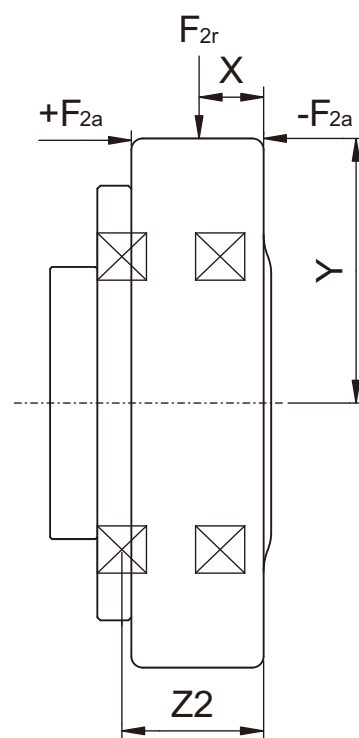

Fig.1
- (3) Backlash is measured at 2% of Nominal Output Torque T_{2N} .
- (4) Applied to the output flange center at 100 rpm. The calculation formula please refer to Fig 1.
- (5) For continuous operation, the service life time is less than 10,000 hrs.